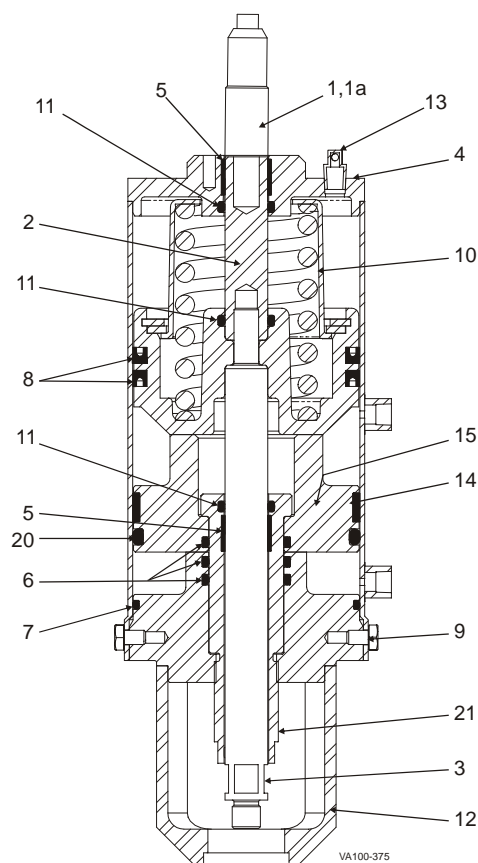

Figure 33 : 4" Air-to-Raise 3-Position Actuator
1. Inspect the upper piston U-cup seal (Figure 33, item 8).
2. Remove the worn U-cup seal. Do not score or nick grooves in the piston (item 10).
5. Inspect the lower piston o-ring (item 20), stem o-ring (items 6 and 11) and yoke o-ring seals (item 7).
6. Remove the worn o-ring seals. Do not score or nick grooves in the piston (item 15).
9. Inspect and replace the PTFE guide bearings (items 14 and 5) as needed.
10. Place the outer stem (item 21) in the lower piston.
11. Screw the outer stem into the yoke (item 12).